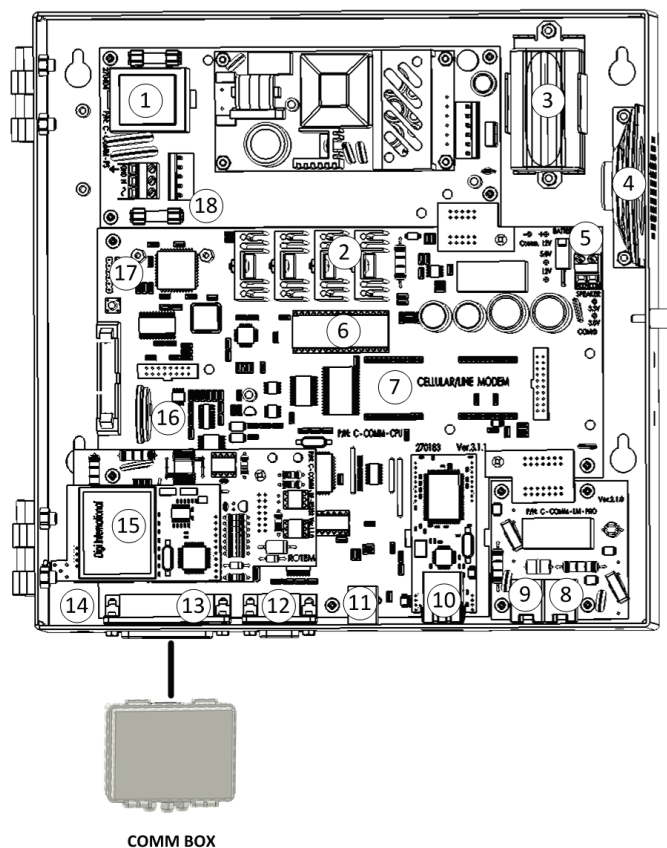

Figure 1: External Connection Box Connector and Internal Components (Sample) Board
NOTE: Open the Communicator and verify that all required components are physically installed. Figure 1 illustrates a sample Communicator and its components.
Figure 1 key
1. Connect the External Connection Box to the Communicator using the 25 pin connector as shown in Figure 1.